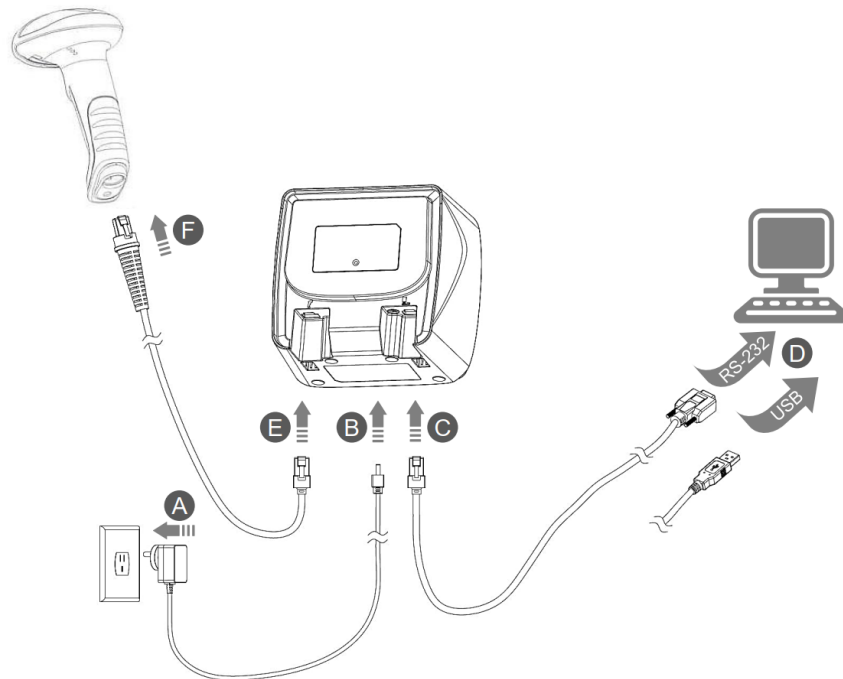

Figure 3-3
1. For the FR80 with the adapter, connect the adapter first and power on the FR80 according to step A and step B in Figure 3-3. Then connect the data cable (USB data cable or RS-232 data cable) according to step C and step D. Finally connect the handheld barcode scanner if needed, following step E and step F. The power-on duration is about 4 seconds.